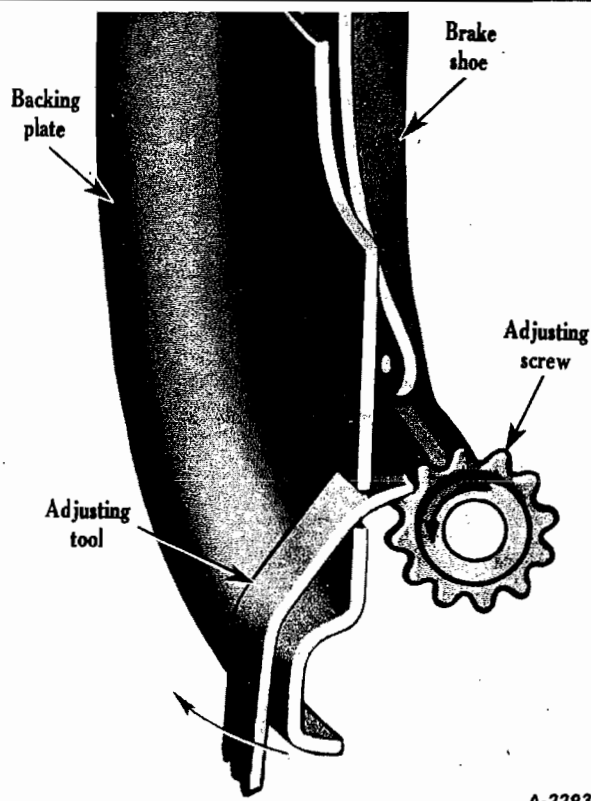

Fig. 5
5. Insert screwdriver or special adjusting tool in slot of backing plate to engage star wheel adjusting screw (Fig. 5).
9. Insert screwdriver or special adjusting tool into upper or front shoe adjusting screw slot of backing plate to engage star wheel adjusting screw (Fig. 5).